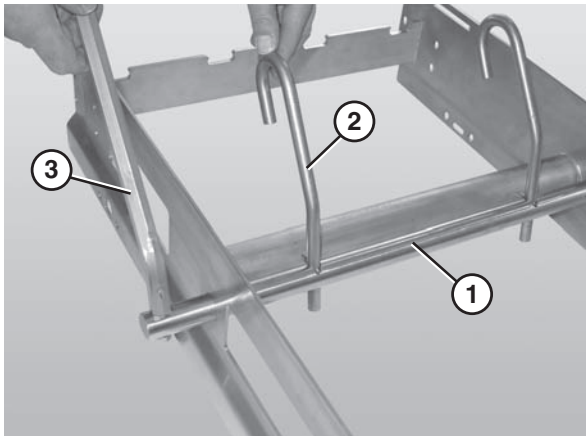

Figure 22
1. Slide the belt lift pivot bar (**Figure 22, item 1**) through the designated holes in the frame.
2. Attach the lifter bars (**Figure 22, item 2**) to the belt lift pivot bar (**Figure 22, item 1**). Make sure the hooked ends of the lifter bars are facing down when resting against the frame.
3. Attach the lifter handle (**Figure 22, item 3**) to the belt lift pivot rod.